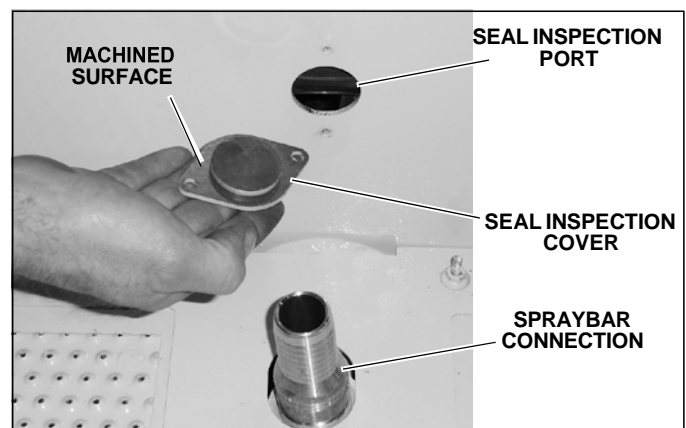

Figure 20. Seal Inspection Opening
Inspect the V-seals every 90 days by removing the Seal Inspection Covers (Figure 20) as described
6. Remove the Seal Inspection Covers on both sides of the Filterveyor. Figure 20. These covers are the “football” shaped pieces located just below the access openings on either side of the Filterveyor. Removal of these inspection covers can be accomplished by removing the button head socket cap-screws located on the ends of each cover. The Filterveyor side of the cover has a machined surface which mates with the conveyor casing. Remove the covers by prying evenly and gently around the cover edges to prevent damaging the machined surface.